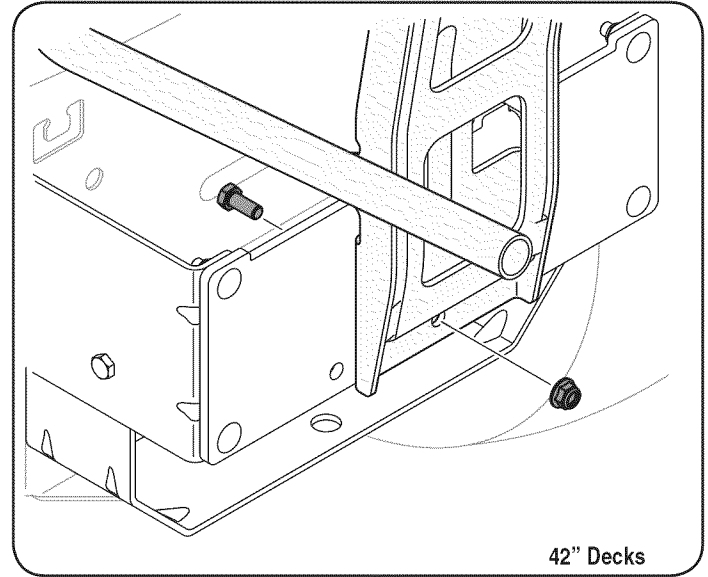
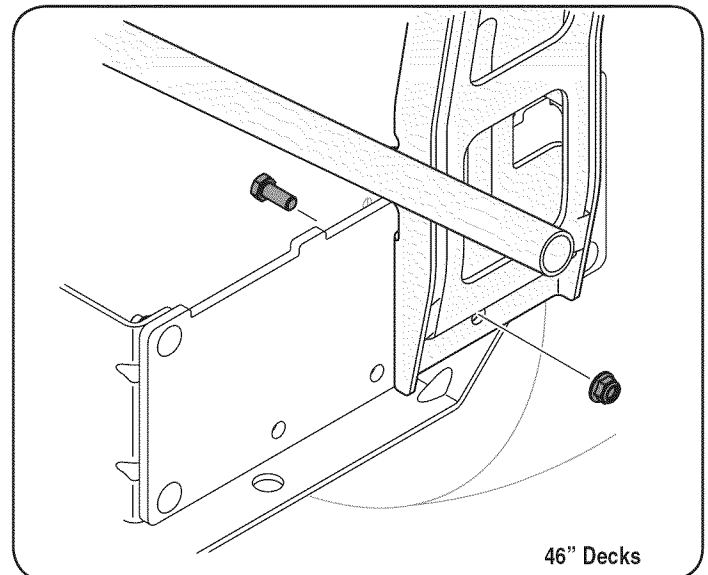

Figure 11
Figure 12
5. Secure the bag support assembly to the mounting assembly using a hex bolt (710-3008) and flange lock nut (712-04063) provided in hardware pack 689-00087. See Fig. 11.
Note: On tractors with 42" decks the support assembly mounts in the center hole as seen above in Fig. 11. On tractors with 46" decks, the support assembly mounts in the right hand hole as seen in Fig. 12.